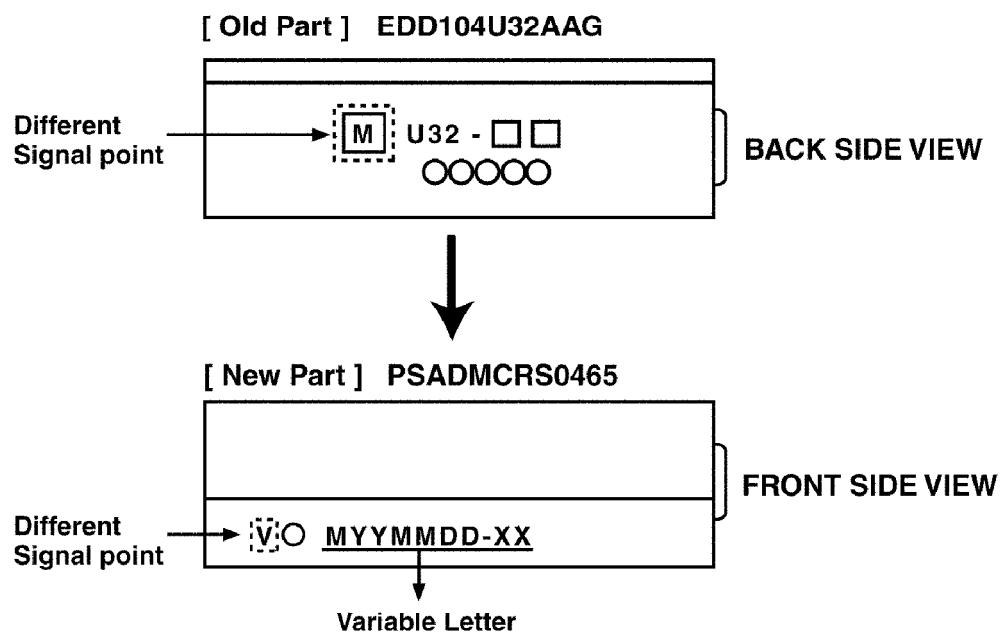

Fig. 2
- 2) Remove the LCD block. (See Fig. 2)
- 3) Remove the 2 screws ①.